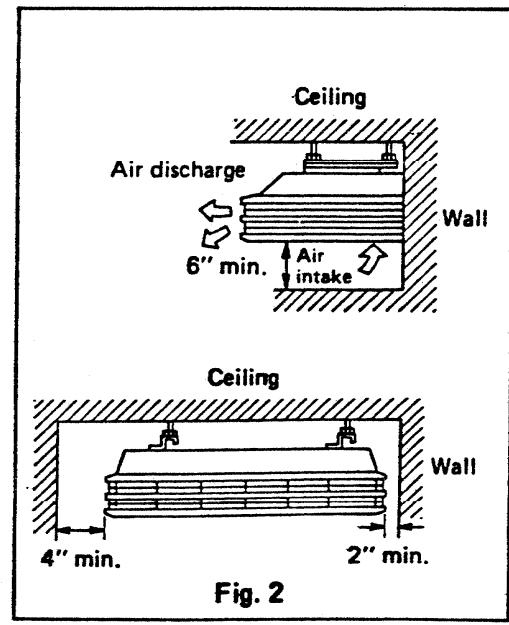

Fig. 2
- allow room for operation and maintenance as well as unrestricted air flow around the unit. Fig. 2